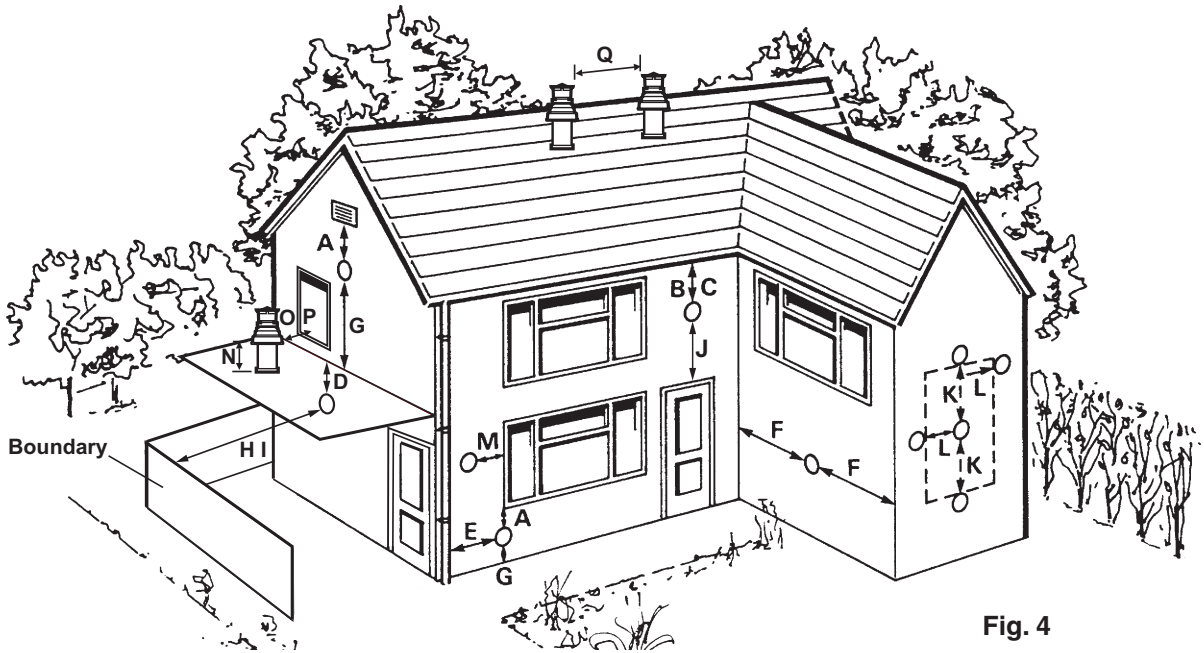

Fig. 4
3.5 FLUE TERMINAL LOCATION - Figs. 4 and 5